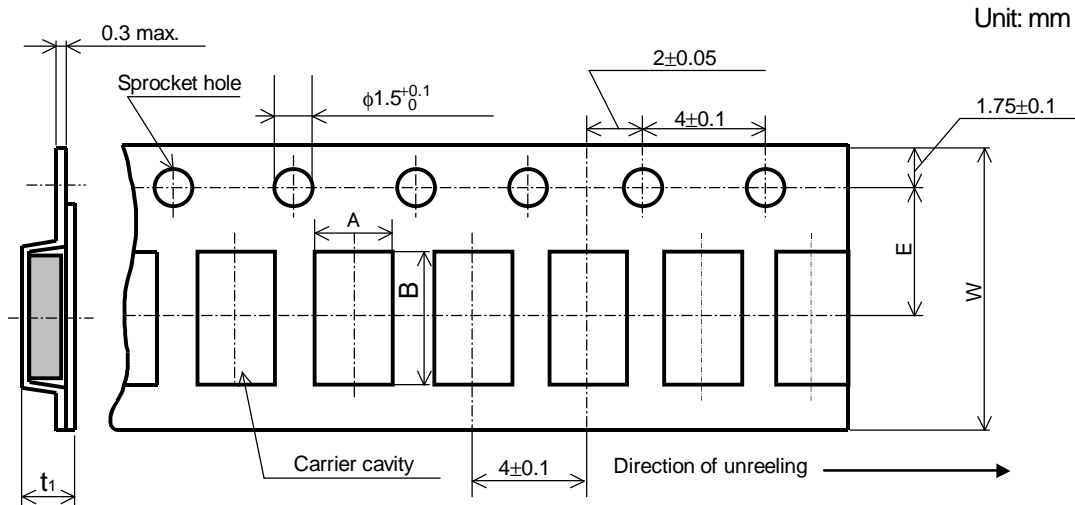

Figure-7
9.2.2 Embossed tapping dimensions shall be in accordance with Figure-7 and Table-6.